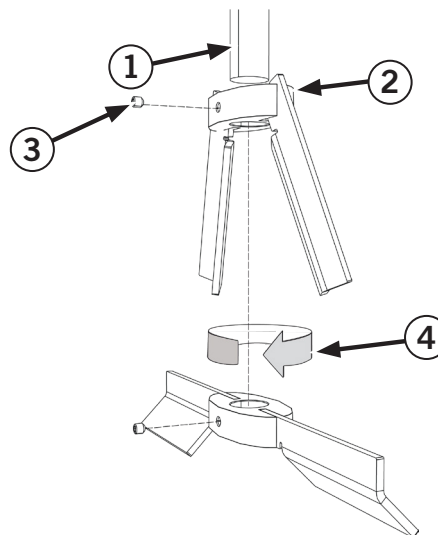

Figure 12. Folding Impeller
It is important to install the High-Efficiency Impeller (HEI) blades in a specific orientation, see rotation (4) in figure 12 below.
1. Install the FLP (2) into the shaft (1) noting the specific orientation, see rotation (4) in "Figure 12. Folding Impeller".
2. Secure with a set screw (3) and tighten to specification.